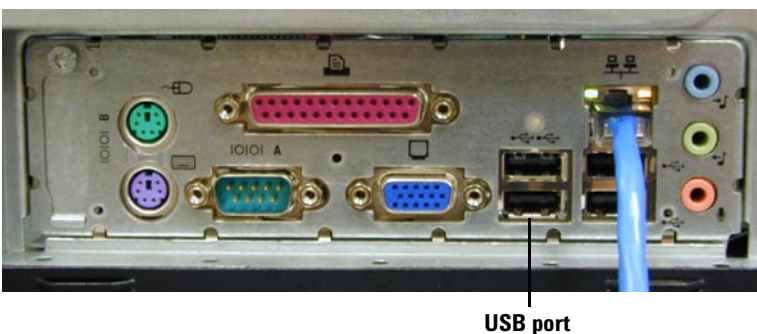

Figure 37 USB connector on the back panel of a computer
- 3 Connect the other end of USB cable to an open USB port on the LC/MSD instrument control computer. See Figure 37.